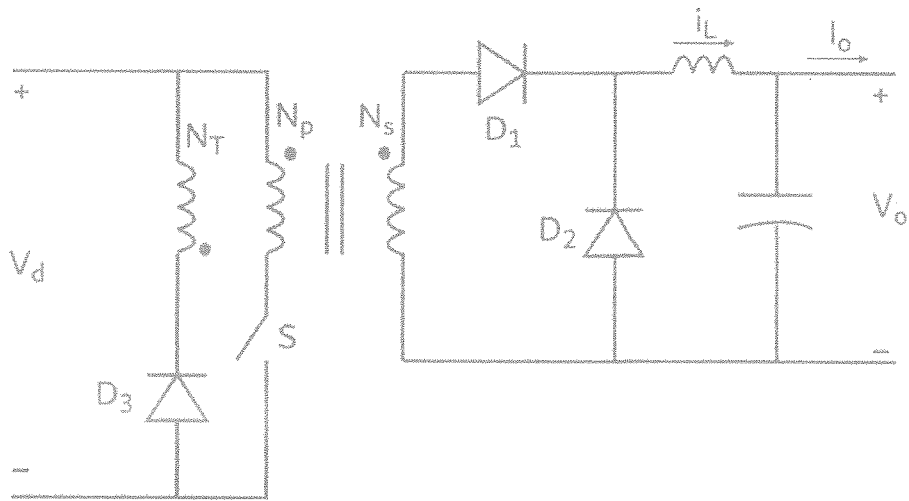

Figure Q1(a).
- Q1. a) The circuit diagram of a practical forward converter is shown in Figure Q1(a). All notations in the figure have their usual meanings. The output voltage of this forward converter is given by
- For the practical forward converter shown in Figure Q1(a), derive an expression for the maximum duty ratio of the switch  $S$ .